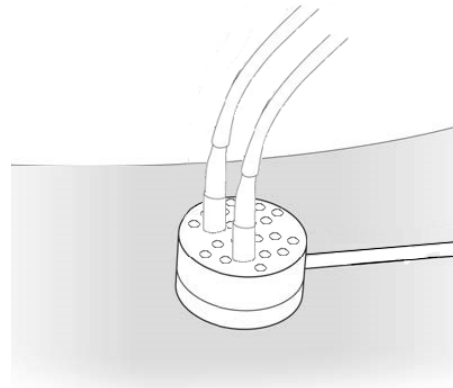

Figure 29: Surface irradiation with the laser shower
- Treat the affected surface of the patient (Fig. 29).